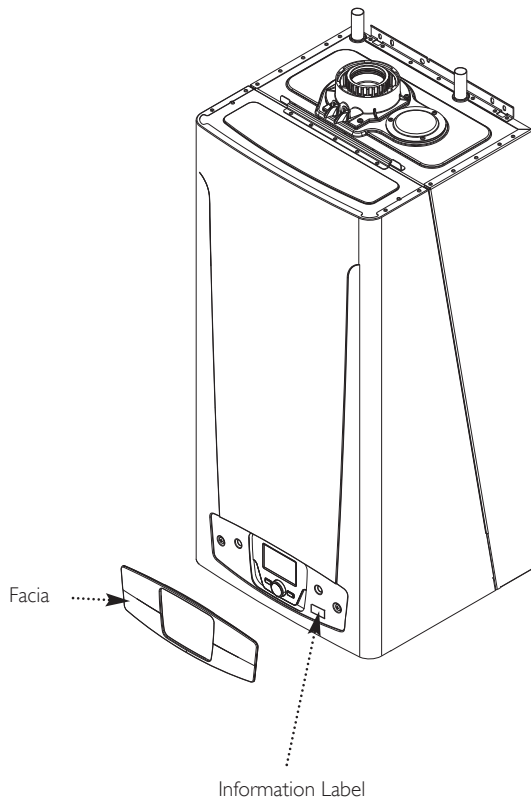

Fig. 1
4. The boiler data badge gives details of the model, serial number and Gas Council number and is situated on the rear of the fascia (Fig. 1).